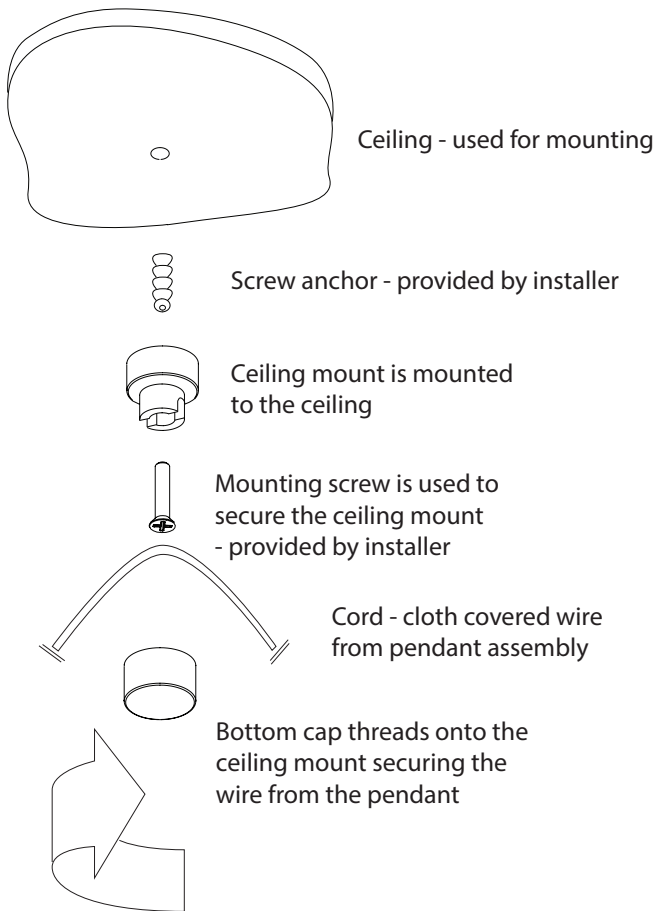

Figure 4
8. Screw swag hook (optional) securely into ceiling or support beam. Pull cord through to desired slack and length. *See Figure 4*.